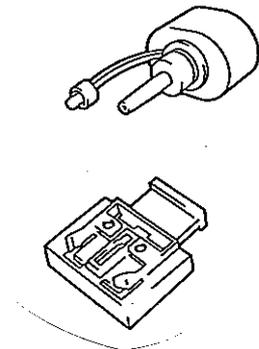

Fig. 2
- 3) Apply ink only two or three drops. Stamp may not print dark immediately. Allow time for ink to saturate the stamp. (Fig. 2)